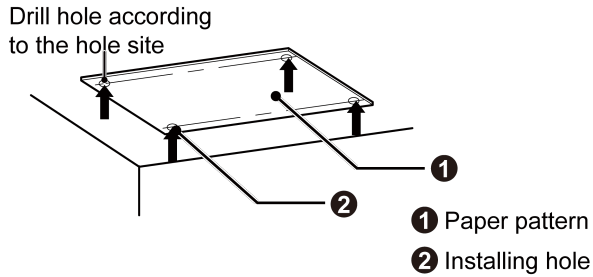
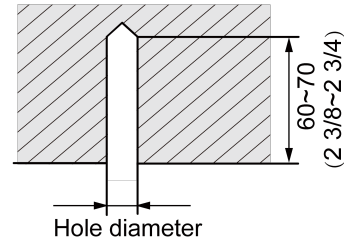

Fig.4.1.2
Fig.4.1.3
- 1) Stick the reference cardboard on the installation position; drill 4 holes according to the hole site on the cardboard as shown in Fig.4.1.2; diameter of drilling hole is according to the diameter of expansion bolt and the depth is 60-70mm(2-3/8~2-3/4inch), as shown in Fig.4.1.3.